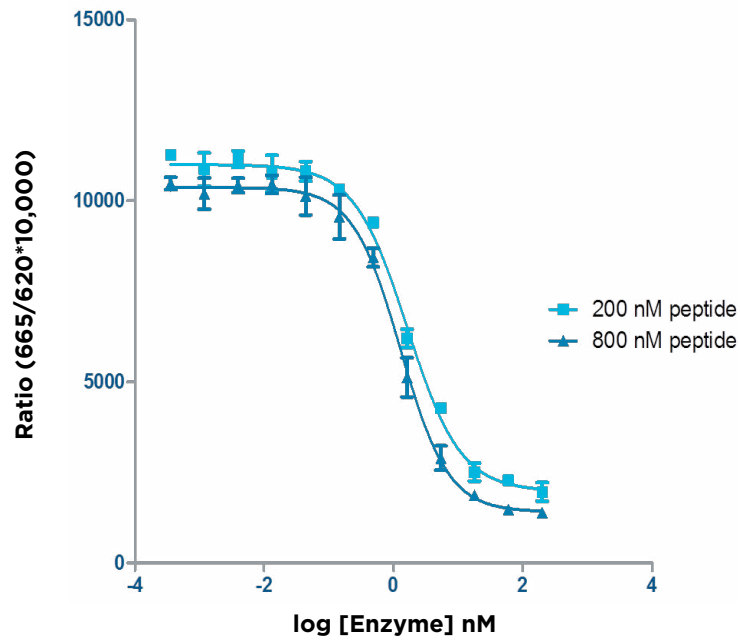

Figure 3: SET7/9 enzyme titration with different peptide substrate concentrations.
An enzyme titration was first performed using two concentrations of H3 peptide (200 nM and 800 nM), 1 μ M SAM, and a 12-point half-log dilution series of SET7/9 starting at 200 nM (Figure 3). Assay buffer, peptide, SAM, and enzyme were added separately to a 384-well Echo qualified polypropylene source plate. 200 nL assay buffer, 400 nL enzyme, 200 nL peptide, and 200 nL SAM were transferred to a 384-well assay plate using an Echo 555 liquid handler. The plate was then sealed and incubated at room temperature (RT) for 60 minutes.